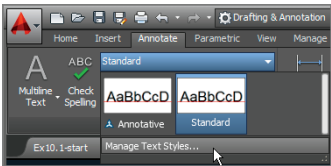

FIGURE 10.1 Managing text styles
1. On the ribbon’s Annotate tab, open the first drop-down menu (for text styles). Every drawing has both an Annotative and Standard style by default. Select Manage Text Styles at the bottom of the panel (see Figure 10.1).